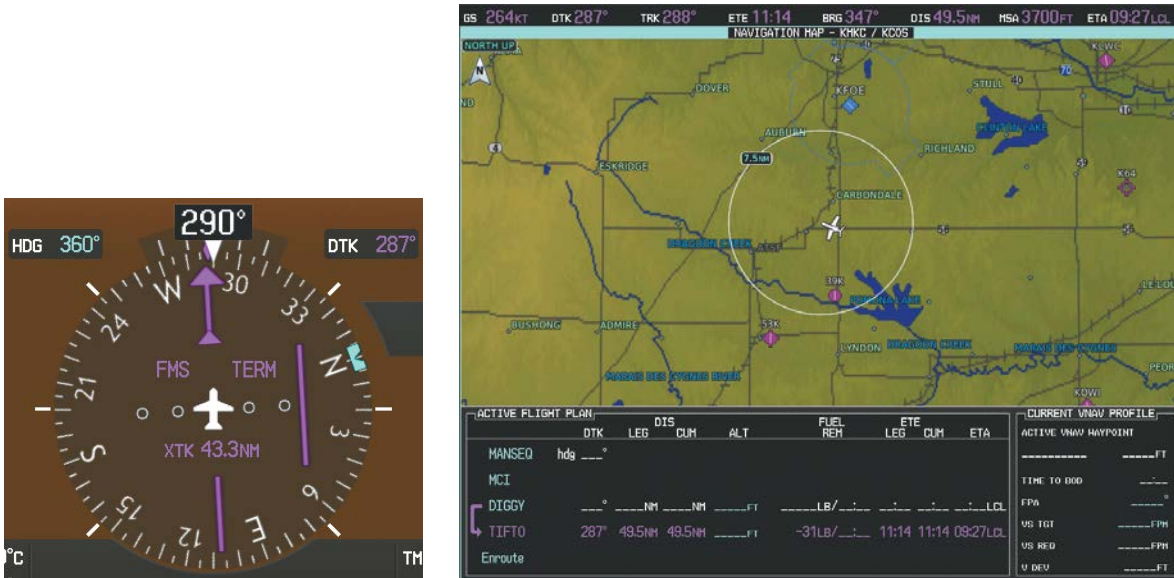

Figure 5-147 Assigned Heading of 290°
- 3) ATC now assigns routing to join V4. A heading of 290° is assigned to intercept V4. The aircraft turns to heading 290° as seen in Figure 5-147.